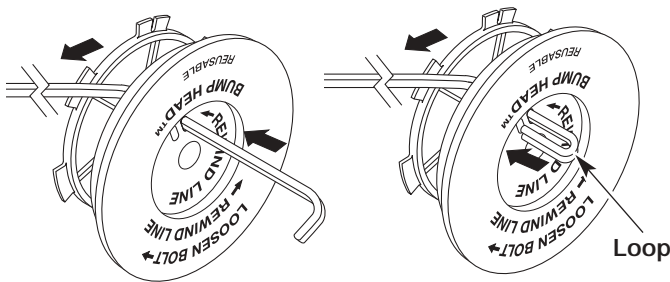

Fig. 57
8. Take approximately 2.5 m (8 feet) of new trimming line. Insert one end of the line through one of the two holes in the inner reel (Fig. 57). Pull the line through the inner reel until only about 4 inches is left out.
9. Insert the end of the line into the open hole in the inner reel and pull the line tight to make the loop as small as possible (Fig. 57).